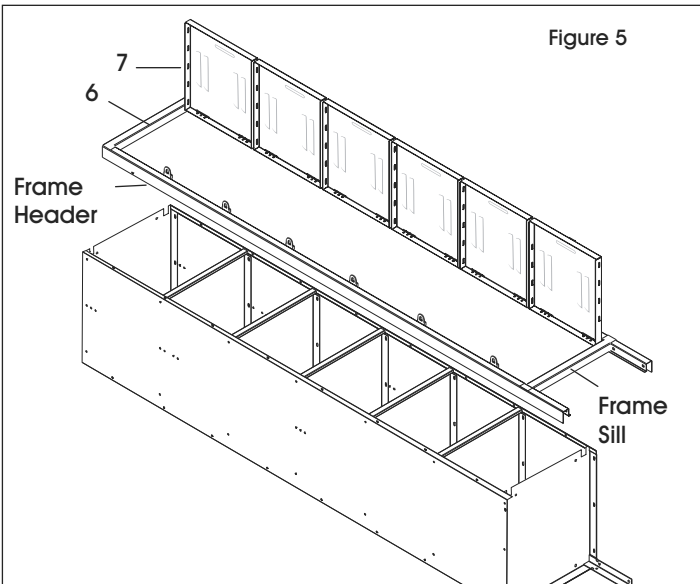

Figure 5
6. Place door and frame assembly (6 and 7) over the locker body. Attach top to frame header and bottom to frame sill (one bolt each). (See Figure 5) **If joining a unit beside another unit skip to JOINING UNITS TOGETHER.**